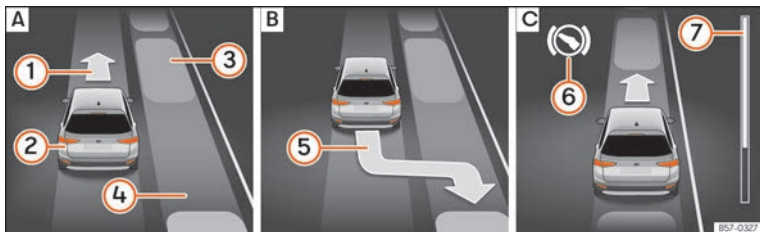
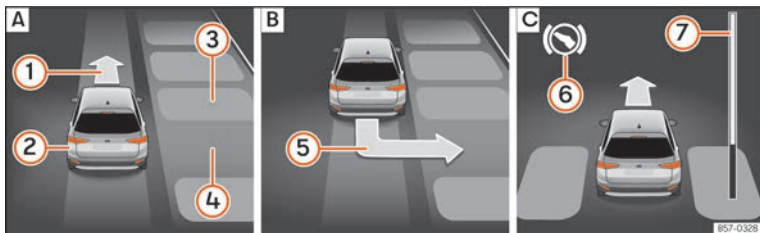

Fig. 285 On the instrument panel display: parallel parking. **[A]** Finding a parking space. **[B]** Parking position. **[C]** Manoeuvring.
Fig. 286 On the instrument panel display: angle parking. **[A]** Finding a parking space. **[B]** Parking position. **[C]** Manoeuvring.
- Look at the display on the instrument panel to see if the space has been detected as “appropriate” and if the correct position for parking has been reached »» Fig. 285 **[B]** or »» Fig. 286 **[B]**. The space is considered
- Reverse until the continuous ParkPilot signal sounds; **OR:** reverse until the indication to move forward appears on the instrument panel display »» Fig. 285 [C] or »» Fig. 286 [C]; **OR:** reverse until the **Park Assist finished** message appears on the instrument panel display. The progress bar ⑦ indicates the distance to cover »» page 309.
- Move forward until the continuous ParkPilot signal sounds; **OR:** move forward until the reverse indication appears on the instrument panel display. The Park Assist system steers the vehicle forward and back until it centres it in the space »» Fig. 285 [C] or »» Fig. 286 [C].
»» Fig. 285 ⑦ and »» Fig. 286 ⑦ on the screen of the instrument panel displays the relative distance to be covered. The greater the distance, the fuller the progress bar. When driving forward, the content of the progress bar decreases upwards, and when reversing, it decreases downwards.